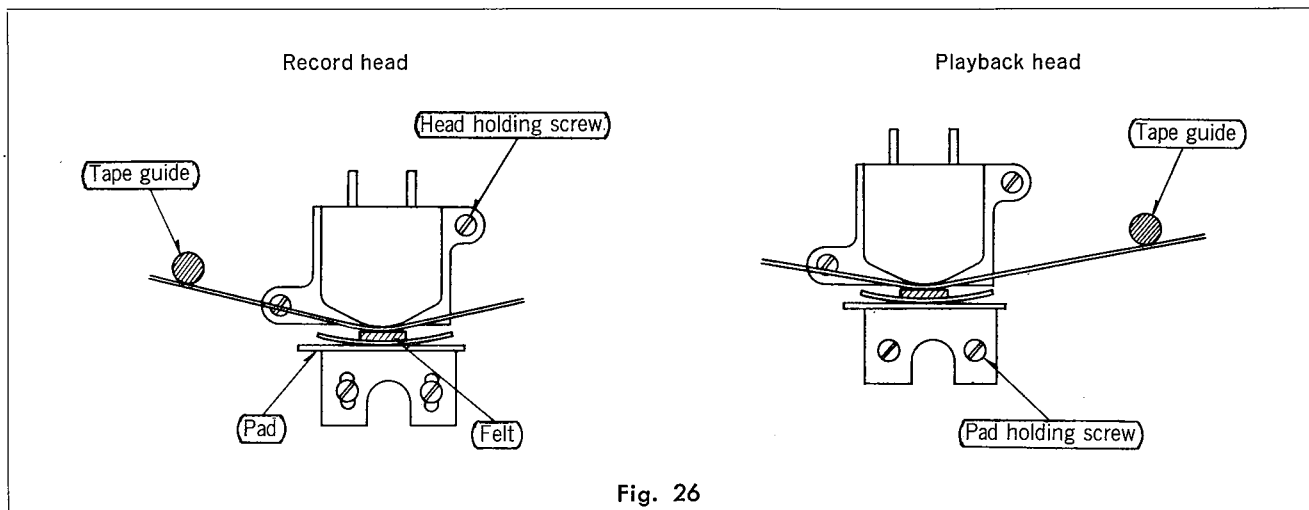
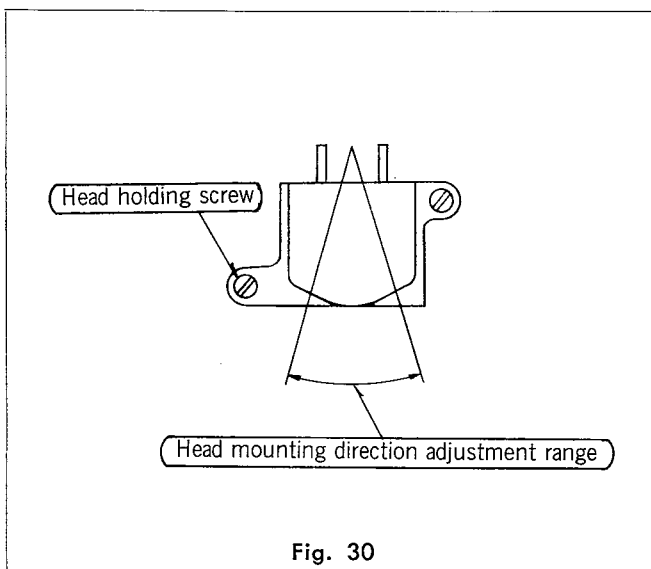

Fig. 26
Fig. 30
- a) Loosen the head holding screw, shown in Fig. 26, move the head to the right or the left, as shown in Fig. 30 and, when the play-back output is maximum, determine the head fixing position. Confirm the conditions of 2-1. (including the back/forth adjustment)
- b) If method (a) is difficult or insufficient, loosen the pad holding screws, shown in Fig. 26, and adjust the pad by moving it to the right or the left, as shown in Fig. 31, and confirm the conditions of 2-1.